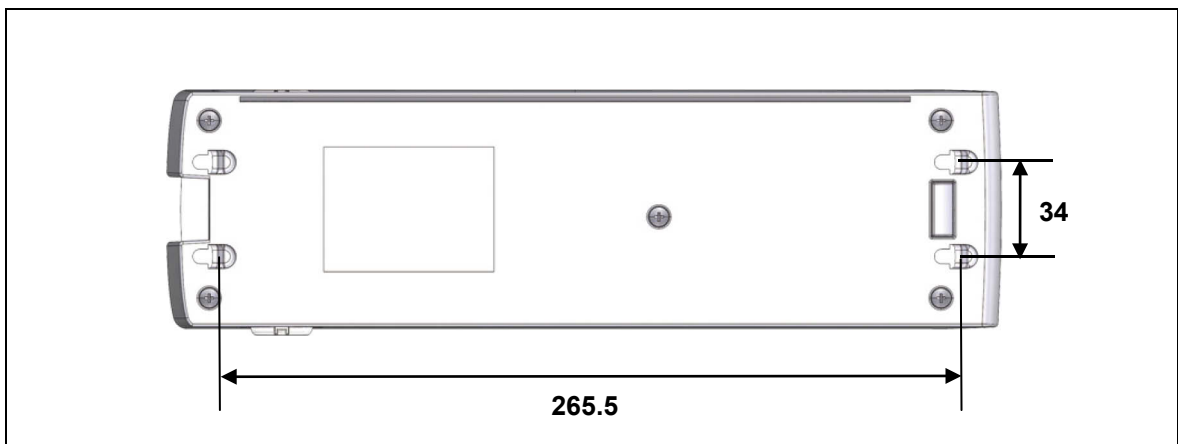
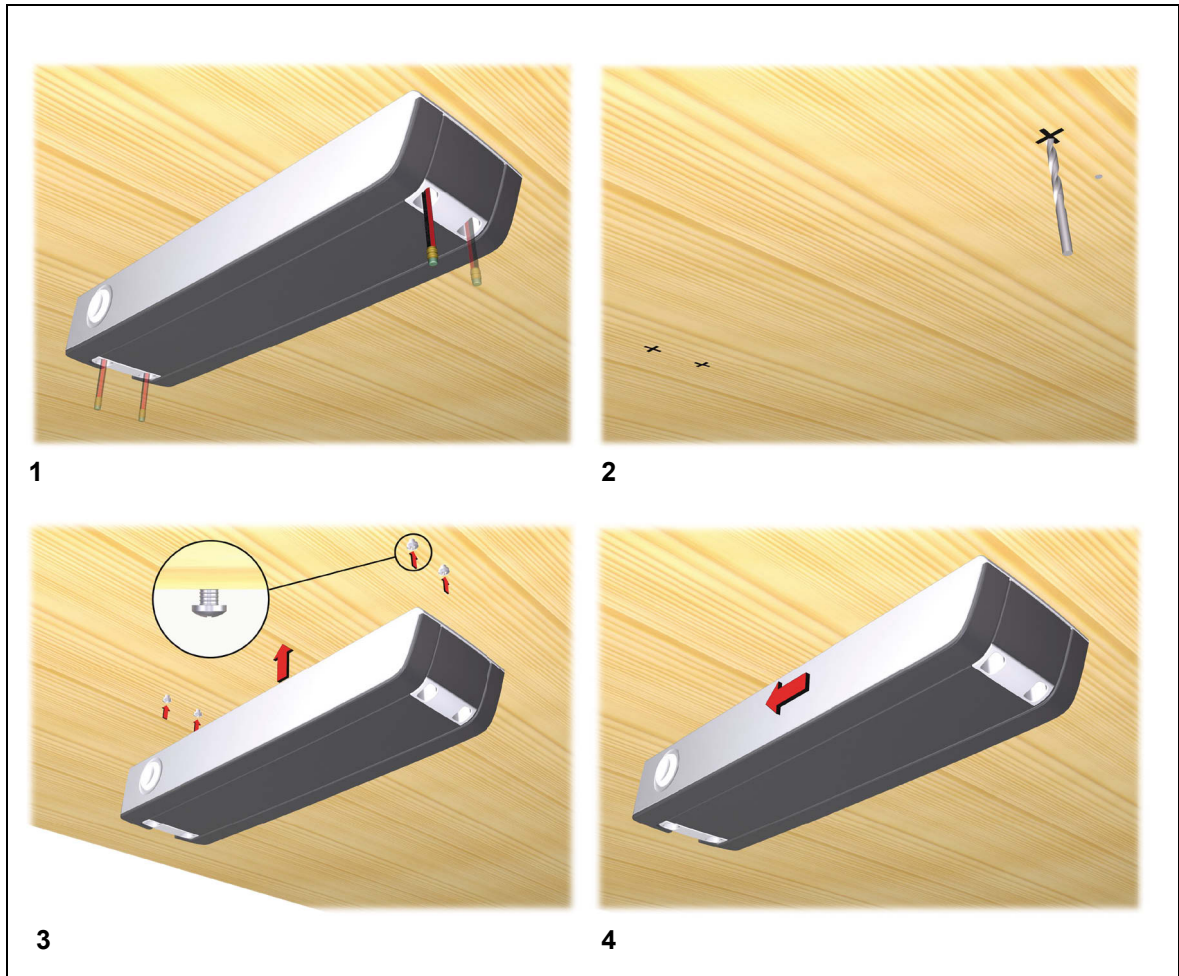

Figure 5 Drilling dimensions (example): Mounting points on the CONTROL UNIT HE-300, (in mm)
Figure 6 Installing the CONTROL UNIT HE-300
- ▶ The drilling dimensions shown in Figure 5 only illustrate an example and are not necessarily authoritative for all applications.
Screw the control unit onto the end product (as shown in Figure 6 ). Use the mounting holes shown in Figure 5 located on the control unit. Use screws meeting the requirements of DIN 7981 with 4.2 mm diameter and of suitable length (5 mm plus the screw-in depth into the end product, screw head: 8.2 mm diameter).